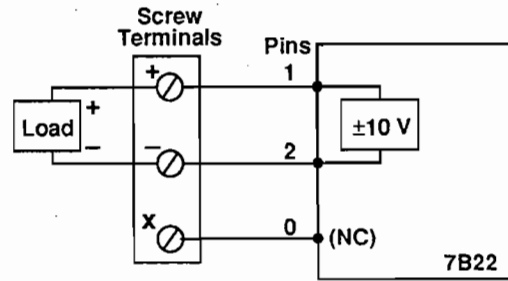

Figure 2-17. Voltage Output
- **Voltage Output** - An example of wiring a voltage output signal to a 7B22 module is shown in Figure 2-17.